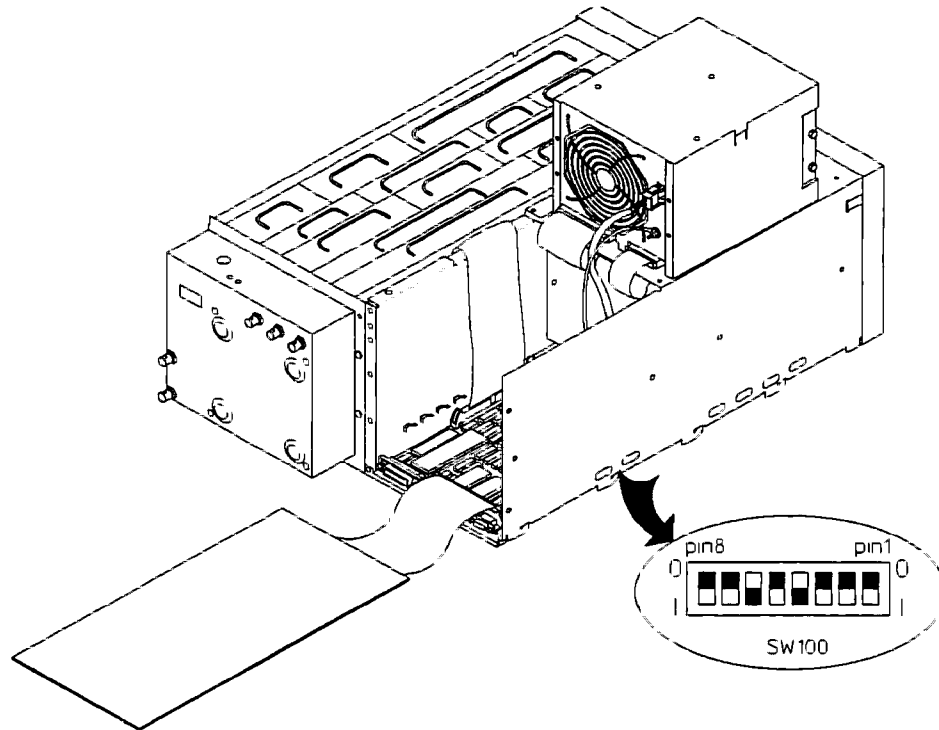

Figure 4-10. Switch Setting for Fast Bus Test
2. On the CPU assembly, set SW100 pin 4 and pin 6 to one (see figure 4-10).
3. Set the power switch to ON (I). The screen displays Fast Bus Toggle Test in progress.... Also the power-on test LEDs alternately flash hexadecimal AA (DS707, DS705, DS703, and DS701 are on) and hexadecimal 55 (DS706, DS704, DS702, and DS700 are on). If the analyzer did not respond correctly, the CPU assembly is probably faulty.